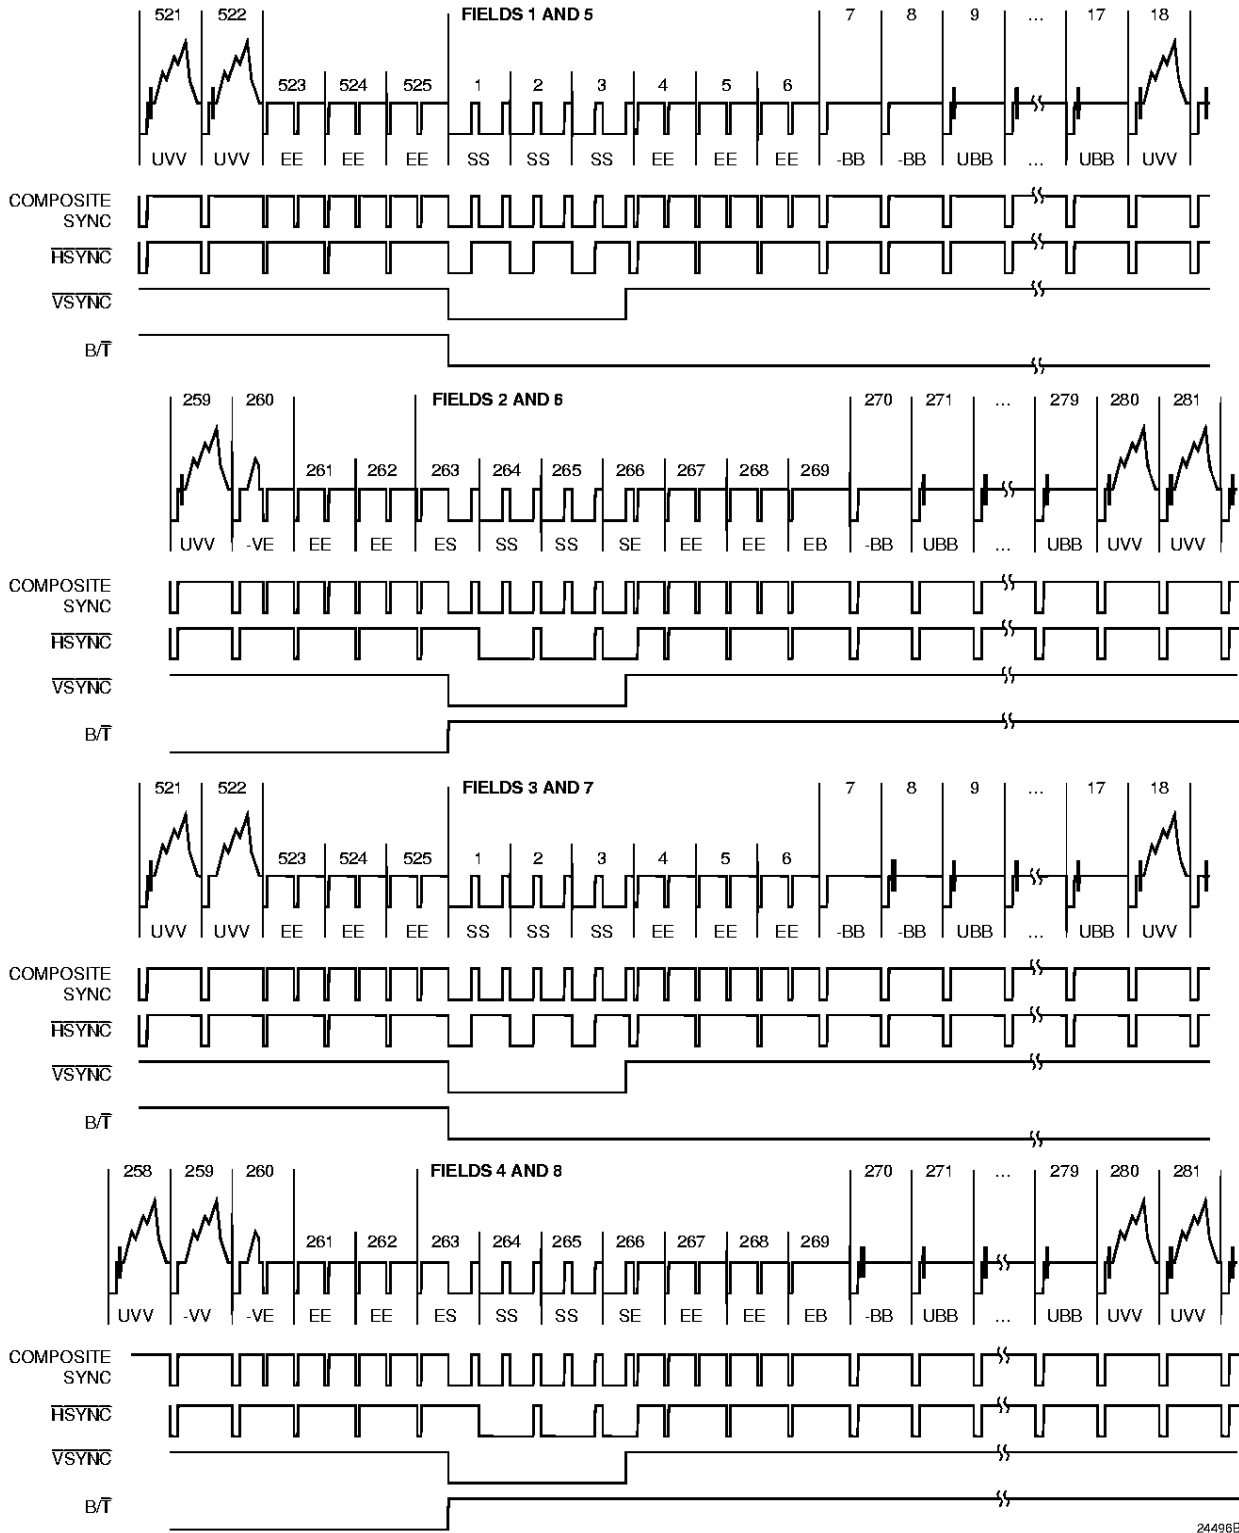

Figure 9. PAL-M Vertical Interval
1. Line numbering is in accordance with Figure 7, Figure 8, and Figure 9. Subcarrier and color burst phase are relative to the horizontal reference of the line specified above.